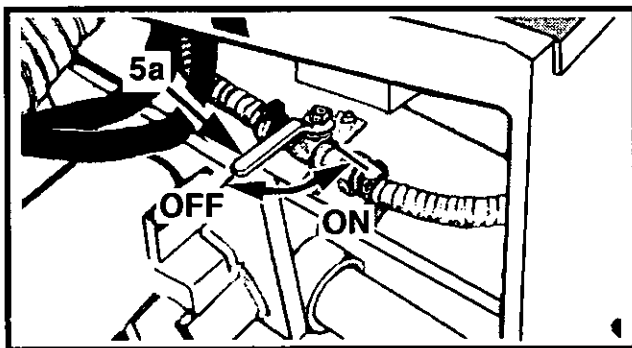

Figure 4-20 Water Control Valve
1. If ON, stop the water flow by turning the water control Valve to OFF position (5a, Figure 4-20).